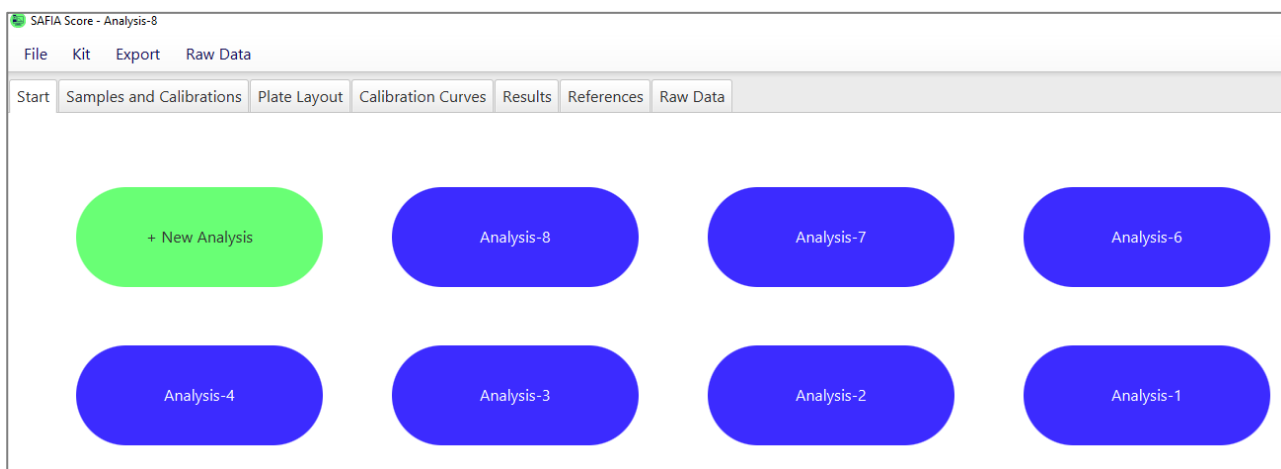

Figure 11. View of the SAFIA Score start area
2. Start a new analysis in the *Start* tab by clicking on the green *+ New Analysis* button (see Figure 11).